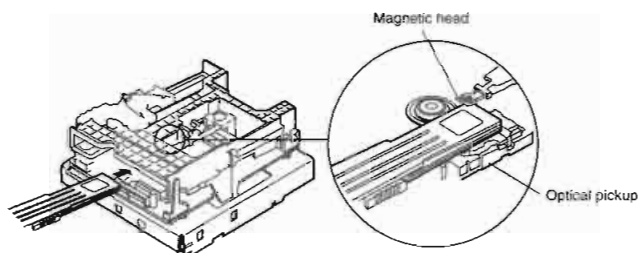

Fig. 13
3. If using a laser power meter, position the sensor directly above the optical pickup. (Refer to Fig. 13.)